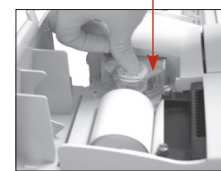

Figure 2: Install the new peristaltic pump cartridge and then push down the pump roller
5. With the nipples facing down, hold the new peristaltic pump cartridge next to the pump motor. Turn the motor shaft by hand so that it aligns with the key-way of the pump spool. Then, align the pump cartridge with the motor shaft and push the cartridge down firmly until it is fully seated on the housing (Figure 2).
6. Press the pump cartridge roller down until it is firmly seated on the shaft of the pump motor (Figure 2).